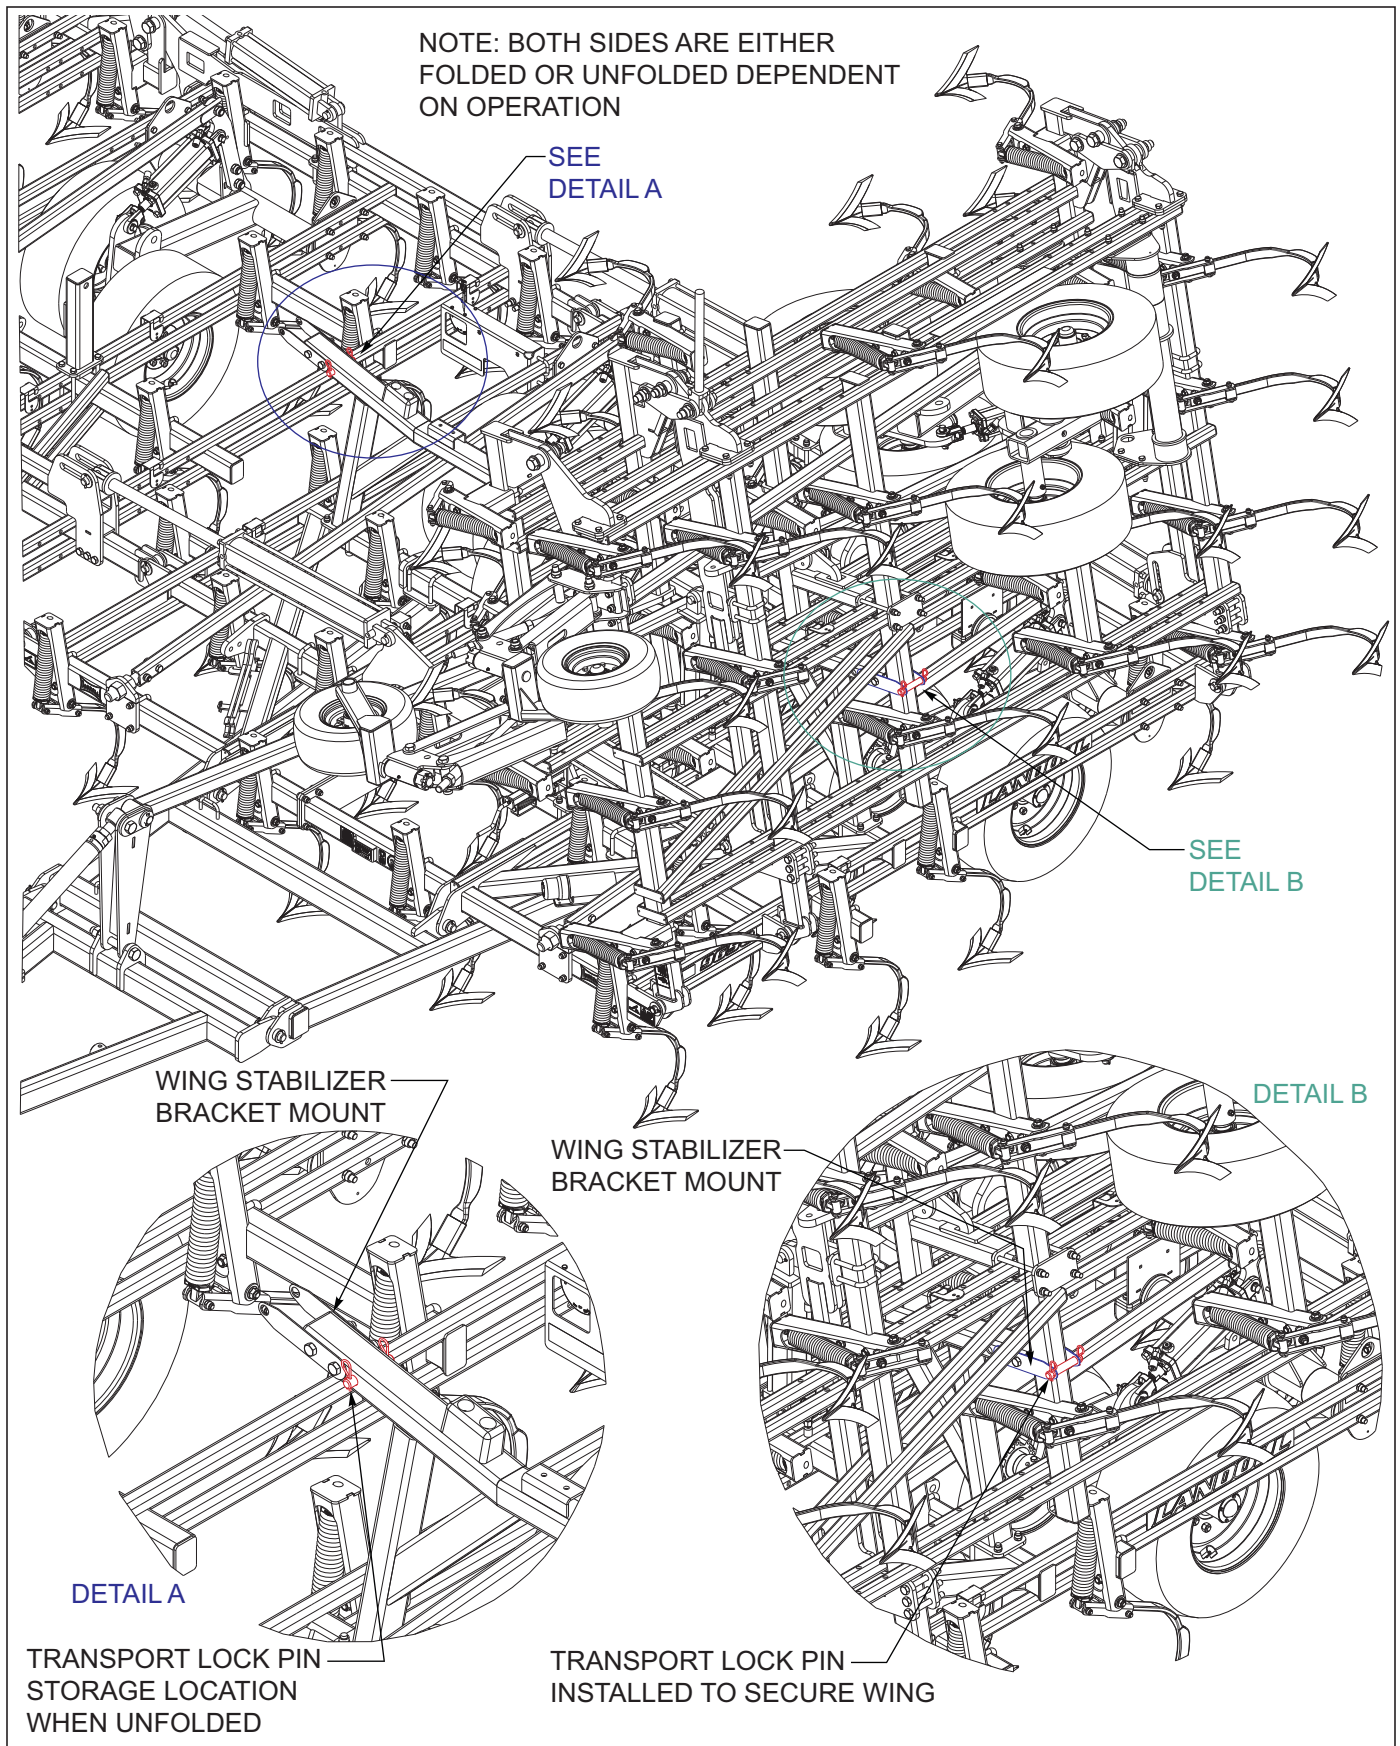

Figure 4-4: Wing Stabilizer Bracket Locks
5. The tractor should be stopped and not moving with the implement fully raised. Remove the wing transport lock pins from the mounts and install them in the storage locations *See Figure 4-4*.
6. Slowly engage the tractor lever and fold/unfold the wing frames. When the wings are unfolded, continue holding the tractor lever to fully extend all fold cylinders. This will allow the wings to fully flex in the field. When the unit is fully folded, remove the wing transport lock pins from the storage location and install in the mounts provided on each side of the machine *See Figure 4-4*.
8. Storage - For extended periods of non use, it is best to store the Field Cultivator inside if possible. If the unit must be stored outside for extended periods, is best to apply a light coating of oil or grease to exposed cylinder rods to prevent them from rusting. If the unit is stored in the folded position, make sure the wing transport lock pins are installed to prevent wing frames settling *See Figure 4-4*.